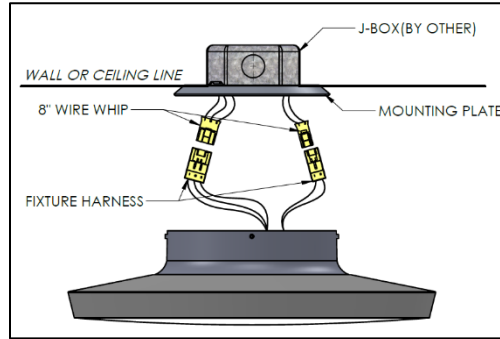

FIG. 8 - WIRING
4. Plug wire connectors to their corresponding connector between fixture (fixture harness) and building supply (8" wire whip) as shown below in FIG. 8.